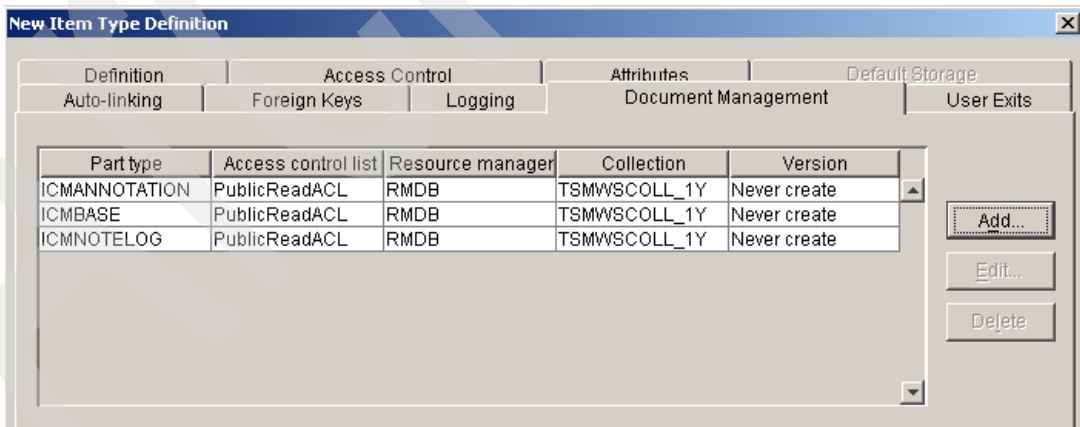

Figure 8-22 New Item Type Definition window: Document Management tab
- viii. In the Part type field, select a third part (**ICMNOTELOG**) to associate with the document item type. From the Access control list, select an access control list (**PublicReadACL**) to associate with the part type. In the Resource manager field, select the resource manager (**RMDB**) on which the part type is stored. In the Collection field, select the collection (**TSMWSCOLL\_1Y**) on which the part is stored. In the New version policy field, specify a version policy (**Never create**) for the part type. Click **OK** to apply the third document management relation and to close the window. See Figure 8-22 for the results.